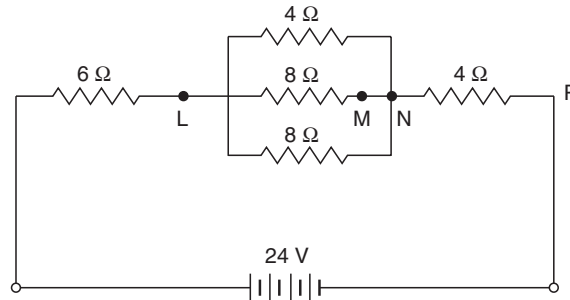

Fig. 57
13. A series parallel resistor circuit is shown in Fig. 57. Determine